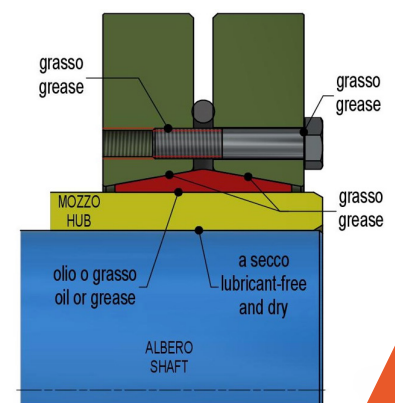
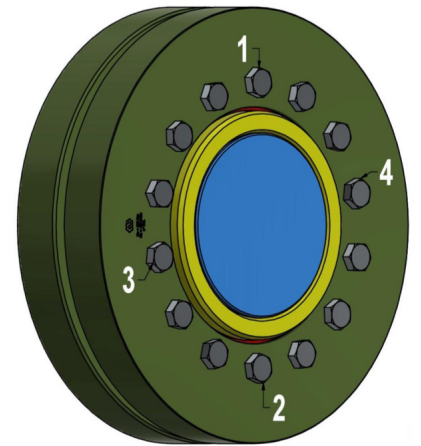

Fig. 2 Lubrication
Fig. 3
Shrink Disc MAV 2008 – MAV 2108 – MAV 2208 are supplied ready for installation. However, it is necessary to **remove the spacers** that may have been used for shipping purpose prior to initiating the installation. **Do not remove the grease from screws and conical surfaces (fig. 2).** **Do not remove the O-Ring.** **Never tighten the screws prior to mounting the Shrink Disc onto the shaft,** as inner ring and/or hub might remain permanently contracted even at relatively low tightening torques.
1. Clean hub OD and Shrink Disc bore. For ease of installation, lightly lubricate hub OD before assembling Shrink Disc onto hub (fig. 2).
2. Carefully **solvent clean and dry shaft and hub bore from any lubricant (fig. 2)** prior to mounting hub onto shaft. This step is critical, as any lubricant on the shaft/hub bore interface will greatly reduce the capacity of the Shrink Disc connection.
3. Move the Shrink Disc onto the hub, then move the hub onto the shaft until the required position is achieved. **The shaft must support completely the tolerated section of hub bore (fig. 2).** **Hand-tighten three or four evenly spaced screws (fig. 3) and make sure that outer rings are parallel;** then hand-tighten remaining screws. At the end of this stage, a light connection is achieved. Hub will not move axially respect to shaft during next tightening steps.